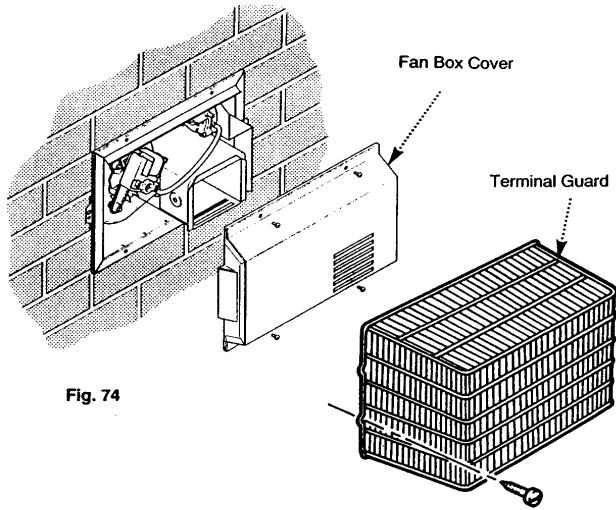

Fig. 74
1. From outside remove the terminal guard and fan box cover (Fig. 74).